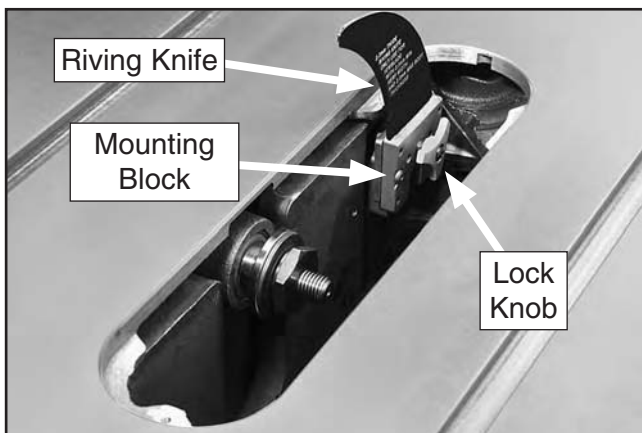

Figure 30. Example of riving knife installed.
35. Unthread the lock knob on the riving knife/blade guard mounting block (see **Figure 30**) several turns. Push the riving knife away from the knob, then lift the riving knife up to remove it.